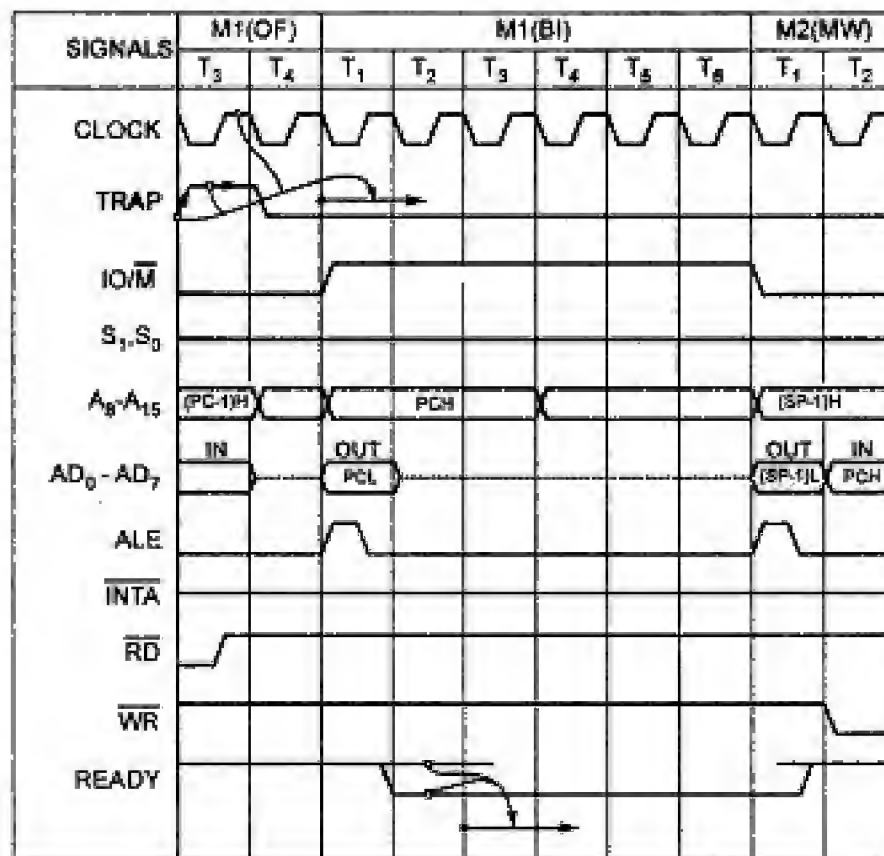

Fig. 2.40 Bus idle machine cycle for trap
2. During internal opcode generations, for TRAP and RST interrupts, 8085 executes Bus Idle Machine Cycles. Fig. 2.40 shows the Bus Idle Machine Cycle for TRAP. In response to TRAP interrupt, 8085 enters into a Bus Idle Machine Cycle during which it invokes restart instruction, stores the contents of PC onto the stack and places 0024H (Vector address of TRAP) onto the program counter.